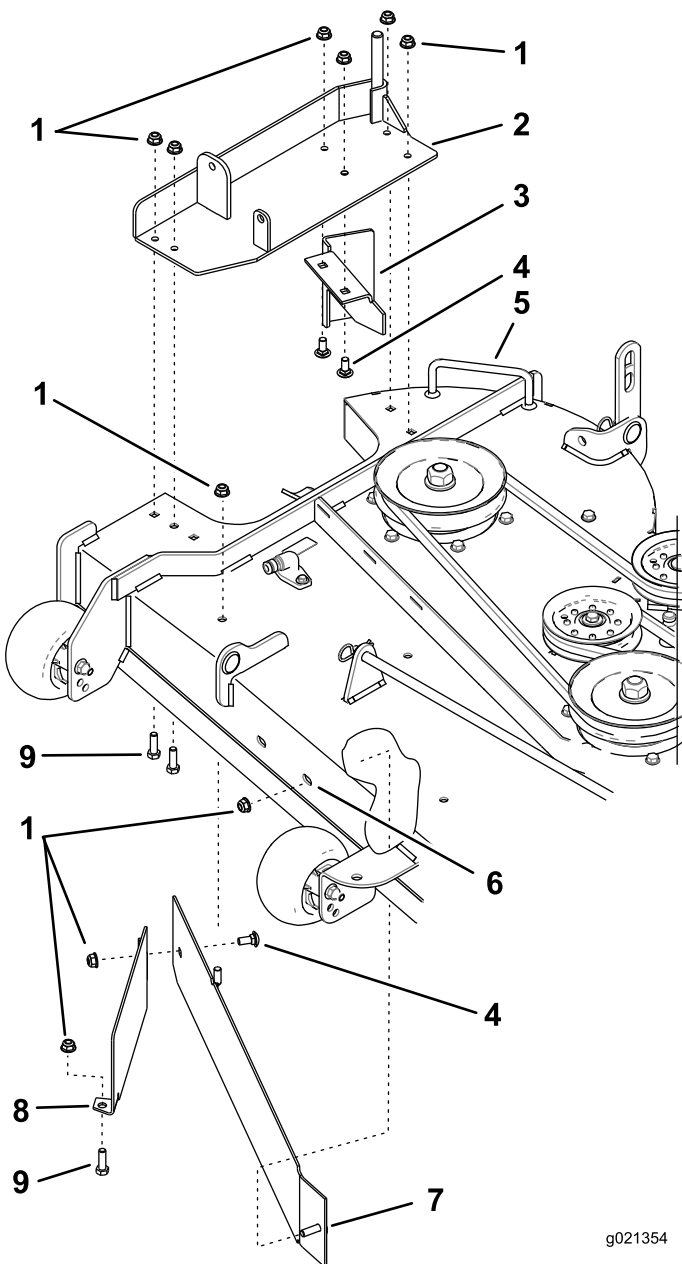

Figure 6
1. Install the cutoff baffle to the blower support with 2 carriage bolts (5/16 x 3/4 inch) and a 2 flange nuts (5/16 inch) (Figure 6).
3. Install the large baffle to the front of the mower deck with a flange nut (5/16 inch) (Figure 6).
4. Using the vertical stud in the baffle, install the baffle to the top of the mower deck with a flange nut (5/16 inch) (Figure 6).
5. Install the blower support to the mower deck with 4 bolts (5/16 x 1 inch) and 4 flange nuts (5/16 inch) (Figure 6).
6. Install the baffle guard to the baffle with a carriage bolt (5/16 x 3/4 inch) and a flange nut (5/16 inch) (Figure 6).
7. Install the baffle guard to the mower deck with a bolt (5/16 x 1 inch) and a flange nut (5/16 inch) (Figure 6).